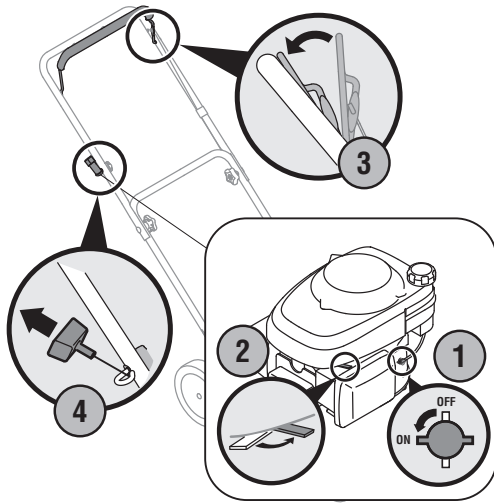

Figure 9
1. Place the fuel valve lever found on the left side of the engine into the ON (OPEN) position, Figure 9.
3. Standing behind the mower, squeeze the blade control against upper handle, Figure 9. The choke will now begin to slowly return to the off choke position after activating the blade control. Therefore, quickly move onto step four below.